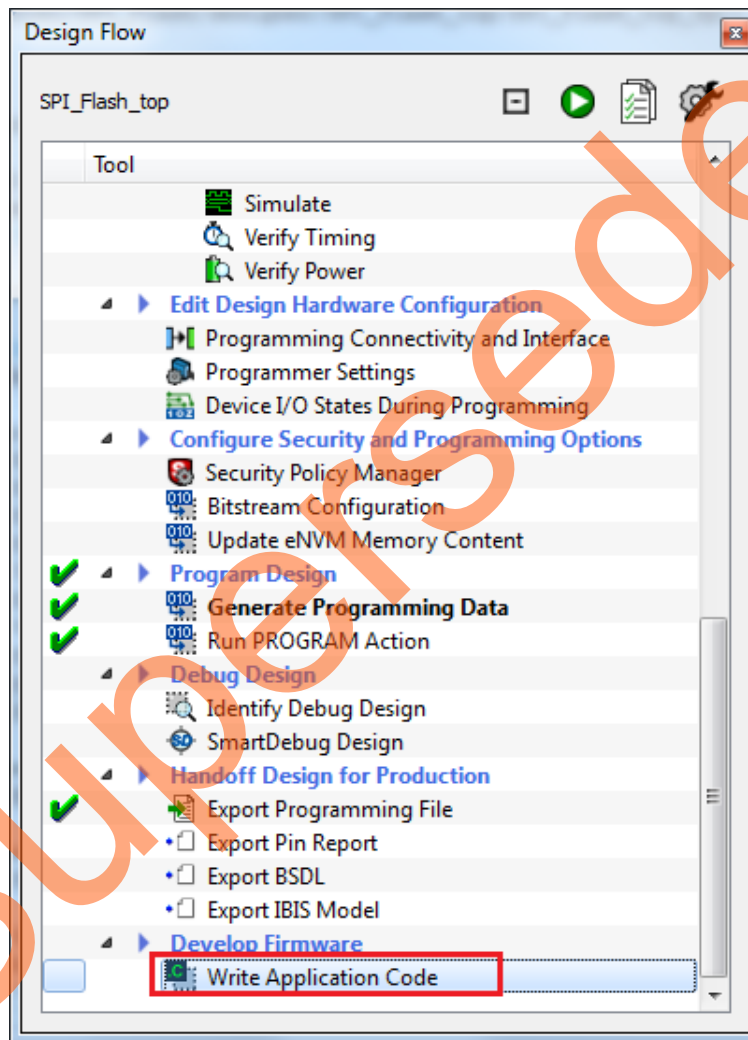

Figure 20 • Invoking IAR Embedded Workbench from the Libero SoC Software
2. Open the IAR project by double-clicking **Write Application Code** under Develop Firmware in the **Design Flow** window as shown in Figure 20.